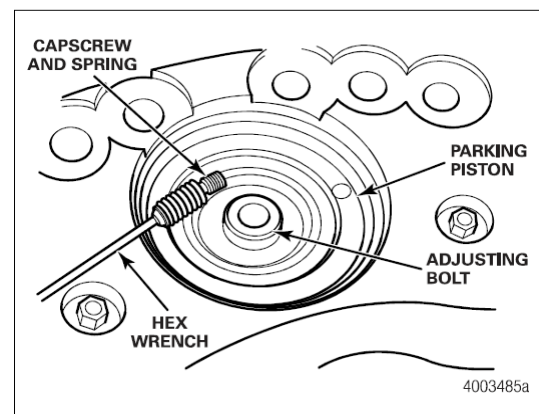

Figure 3.6
7. Remove the shoulder bolt and spring, loosened in the step 2, from the parking piston cavity. Figure 3.6